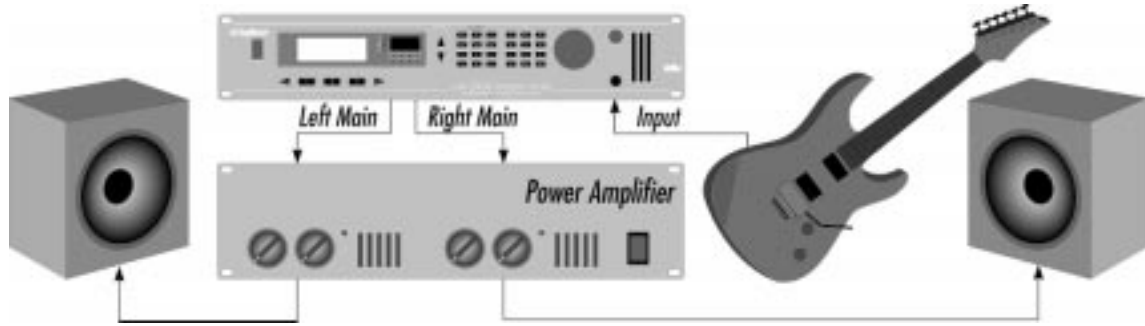

Fig 2-1
**Examples** - Figures 2-1 and 2-2 show common ways to connect your GSP-2101 Artist to guitar amps and speakers. Once you have everything plugged in, set the amps to clean settings. Remember, the better your rig sounds when clean, the better your 2101 will perform.